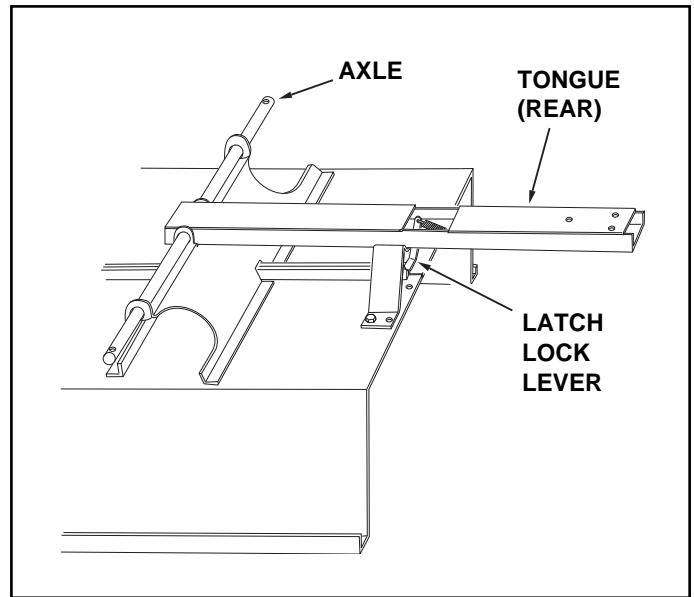

FIGURE 6
10. Position the rear tongue on the wheel support and the latch stand bracket. Assemble the axle through the wheel support and the tongue. See figure 6.